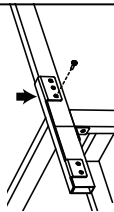
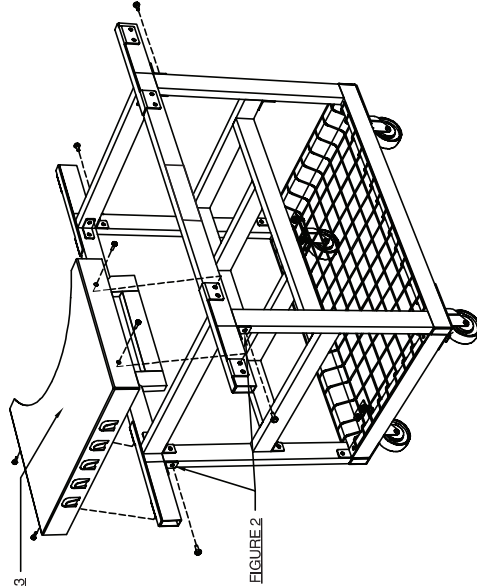

FIGURE 4
FIGURE 3
4. SEE FIGURE 3 BELOW. Fit the side shelves over the brackets and cart frame. For an Oval XL, use the outer most set of holes and for a Oval LG use the innermost set. The Oval JR shelf brackets have a single set of holes as seen in figure 4.